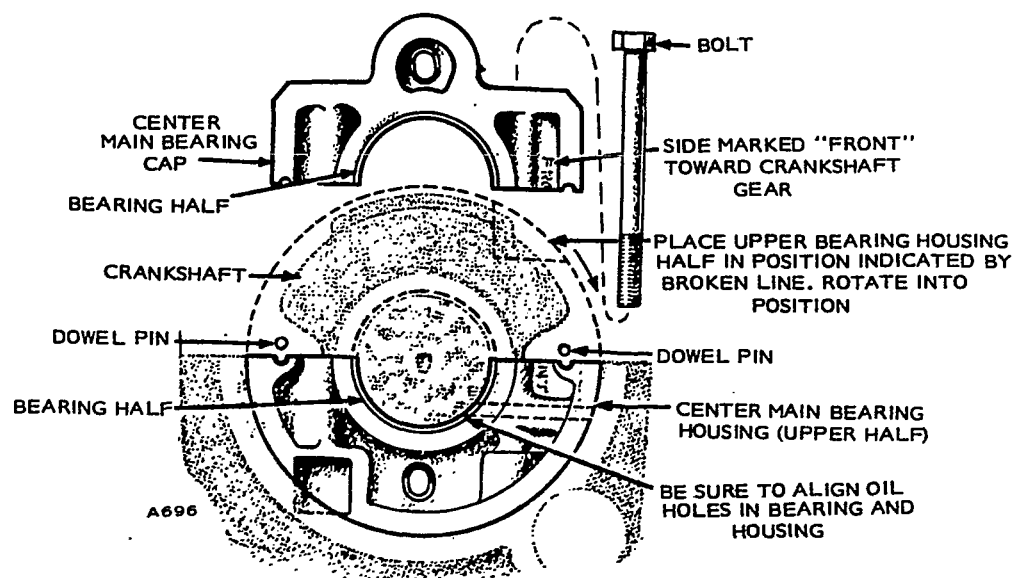

FIGURE 57. MAIN BEARING HOUSING
6. Four cylinder only: Set upper half of center main housing on crankshaft and rotate it into place. See **Figure 57**. Be sure it is installed with the side marked *front* toward crankshaft gear. Set the two positioning dowels on the upper bearing mount. Install center main bearing cap and torque bolts to 97-102 foot-pounds (131-138 Nm).